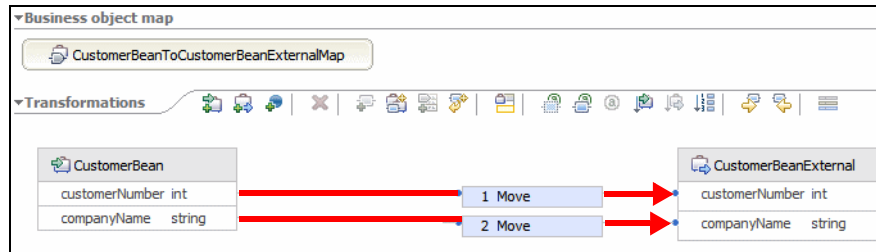

Figure 16-38 Defining the business object map
- ▶ Connect companyName in CustomerBean to companyName in CustomerBeanExternal. Leave the default Move transformation type (Figure 16-38).